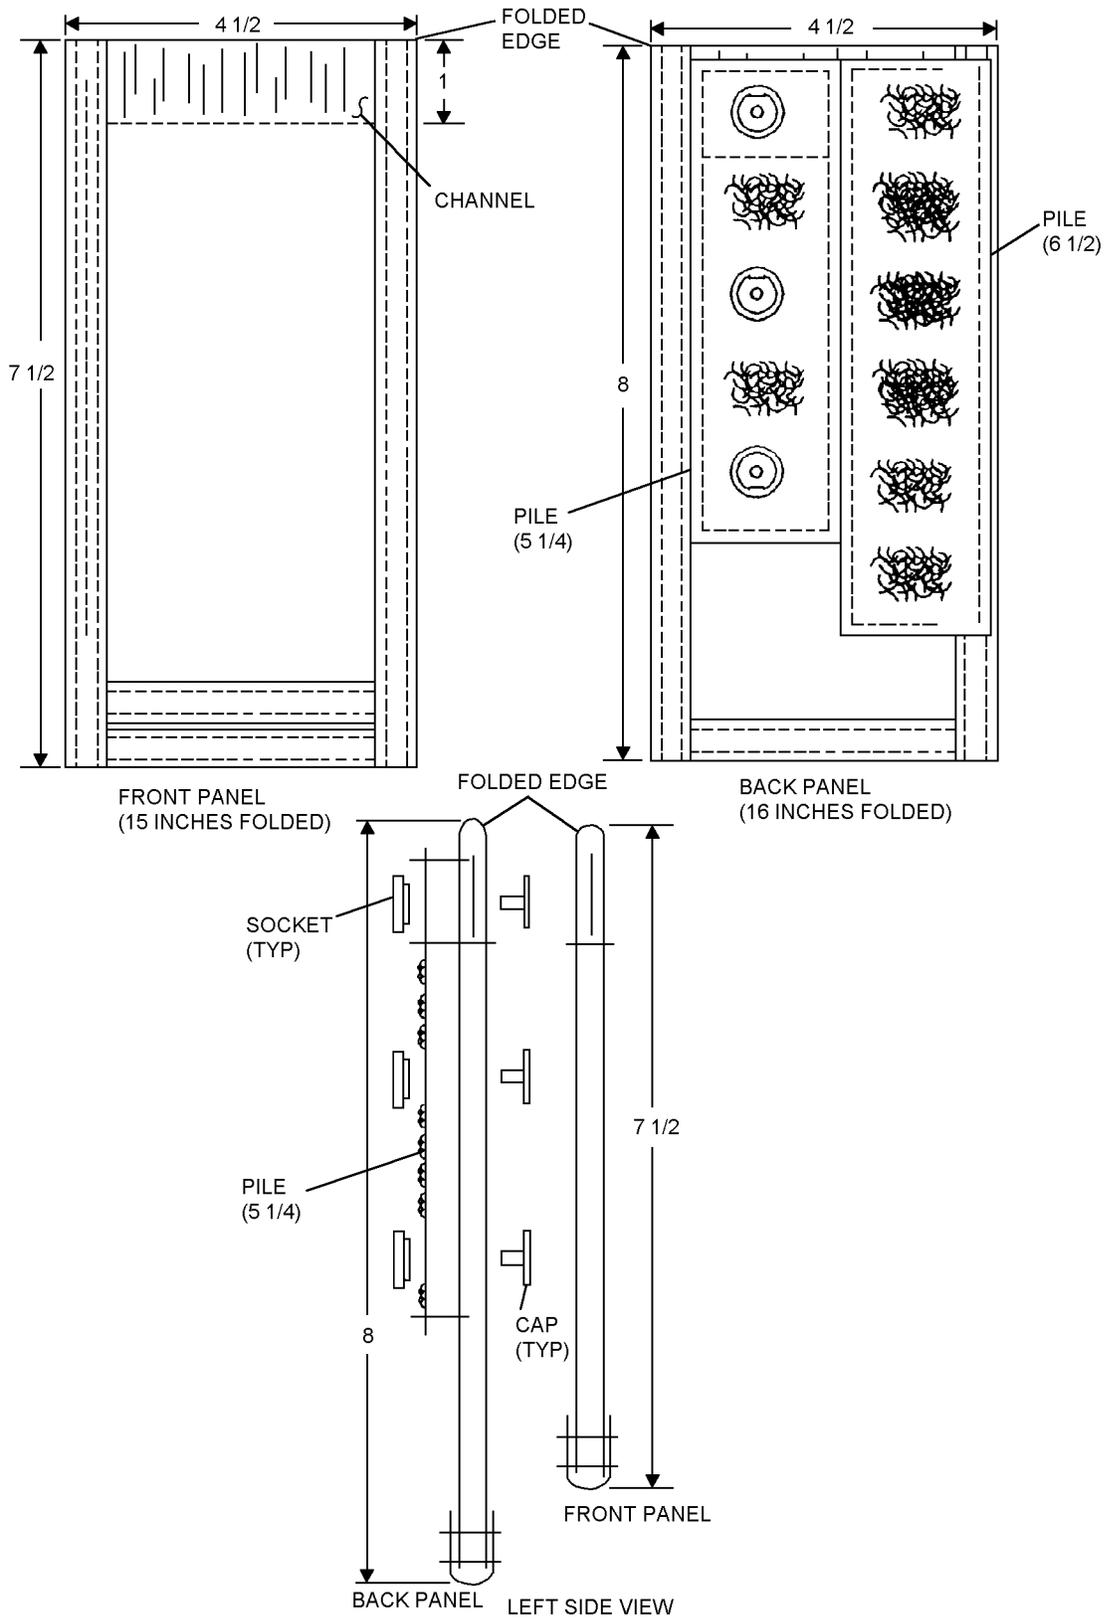

Figure 9-6. Fabrication of CBR Hose Pocket Assembly
9-21. Fabrication of Back Panel of HABD Hose Pocket. Refer to figure 9-6 and proceed as follows:
9-22. Fabrication of Front Panel of HABD Hose Pocket. Refer to figure 9-6 and proceed as follows:
9-23. Assembly of the HABD Hose Pocket. Refer to figure 9-6 and proceed as follows:
b. The top two sockets shall have their flat locking edge on top and the lowest socket shall have the flat locking edge downward to the bottom (figure 9-6).